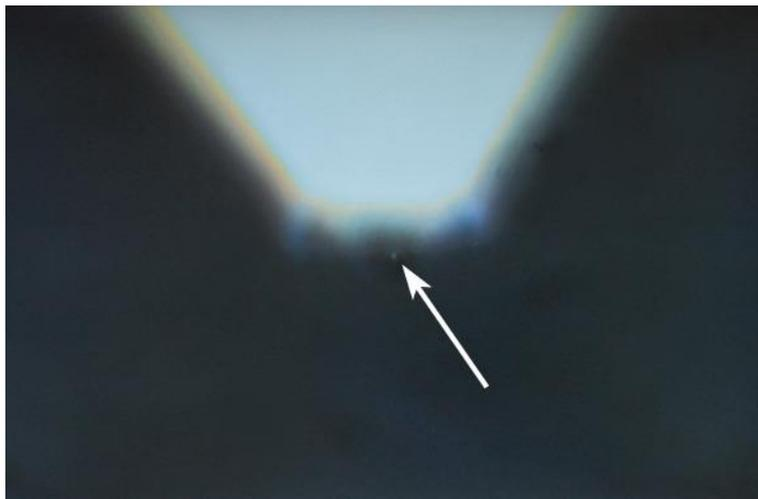

Fig. 8-30. Objective focused on the tip apex
7. Turn the screw for fine focusing of the lens counterclockwise until the specific image of the tip apex (bright point) appears. This shifts the objective focus from the cantilever to the tip apex (see Fig. 8-30).